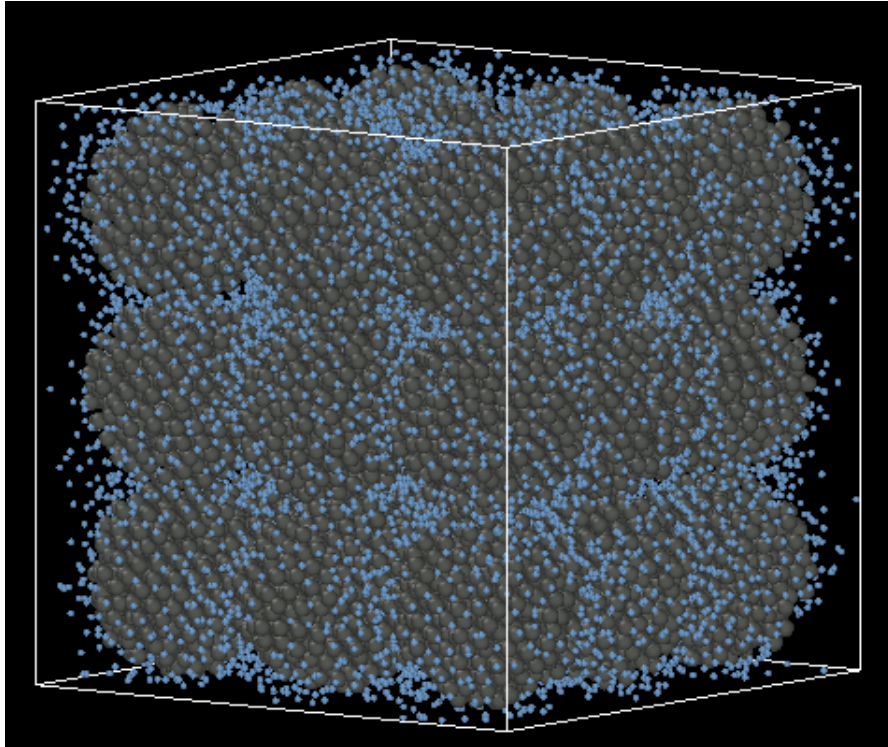

FIGURE 1.3. Visualization of 27 periodically placed solid spheres and flowing argon.
- Have used simulations of flowing argon to measure permeability as a function of porosity, figure 1.3